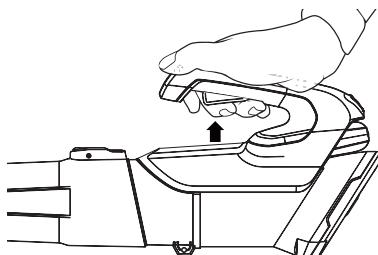

Fig. 5
- b. Press and hold the on/off switch, now the blower is switched on. (Fig. 5)